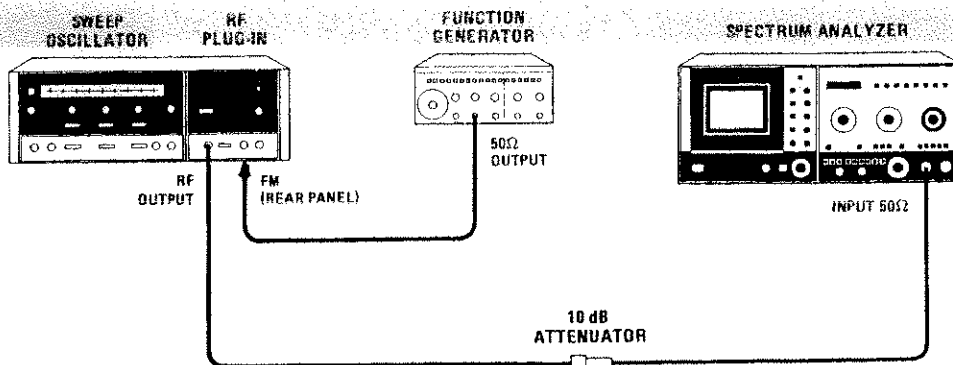

Figure 4-18. External FM Test Setup
- a. Connect equipment as shown in Figure 4-18. Press 8620C LINE pushbutton ON. Allow 30 minutes warmup time.